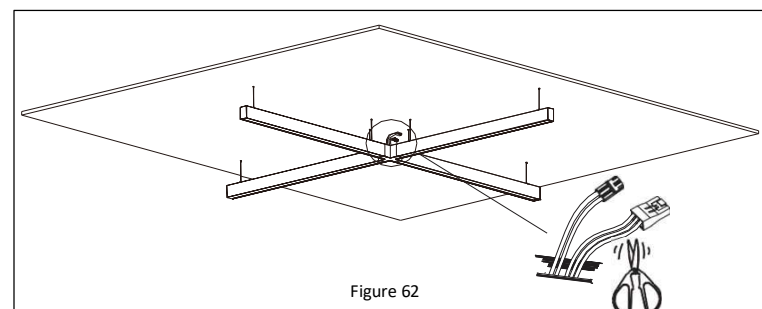

Figure 62
- Cut off the connectors in one of end for wiring to line voltage. Make wiring connections according to the **Wiring Diagram. See Figure 62.**